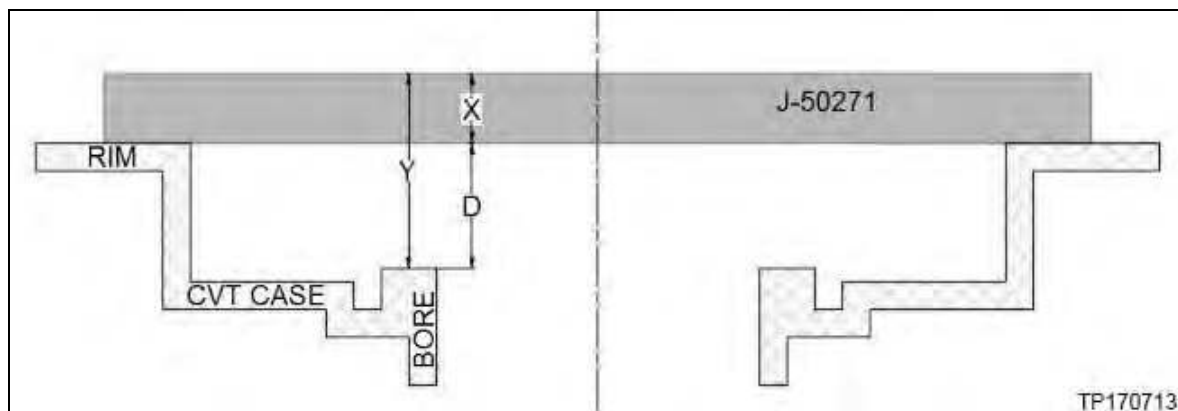

Figure 5M
NOTE: Only if a Gauge Block (J-50271) is not available, measurement "X" (Figure 5M, page 59) will need to be determined for the measuring bar being used. This can be done either with a set of calipers or with Digital Depth Gauge (J-50272).
8. Measure the average distance (Y) shown in Figure 5M as follows: